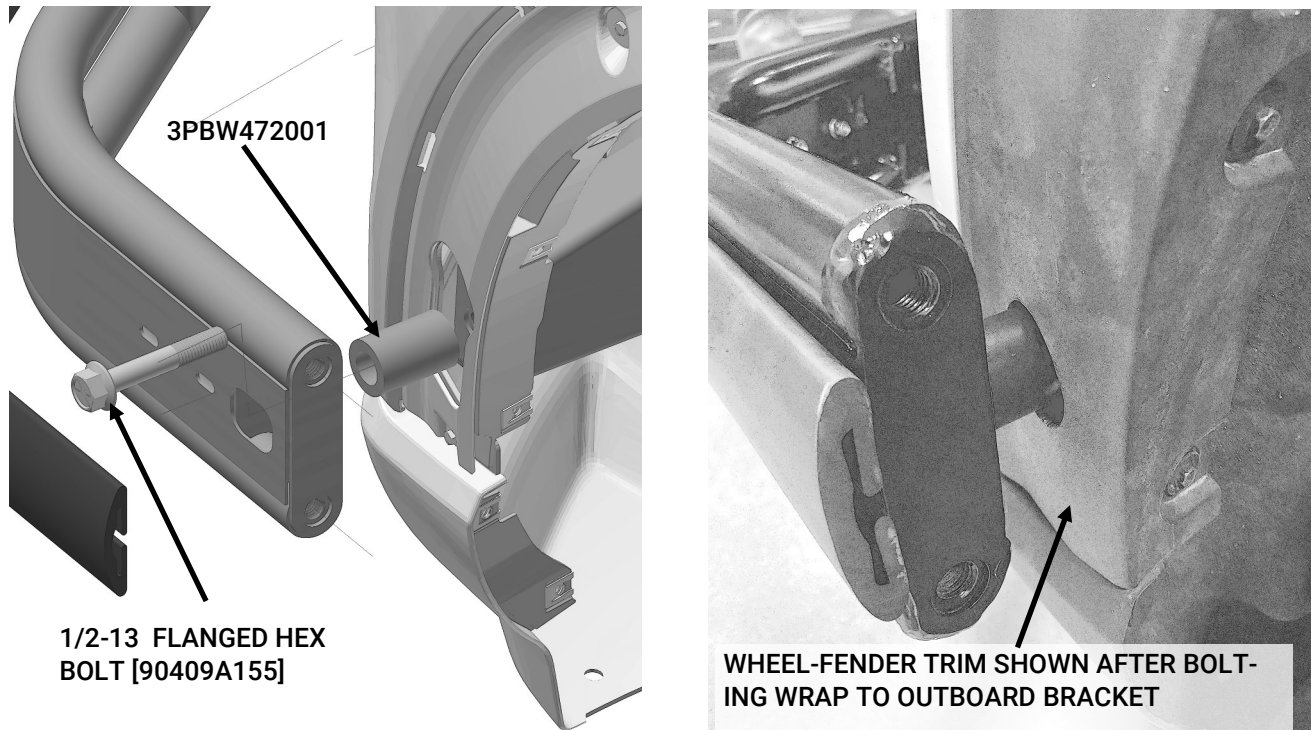

Fig. 8
- D. Assemble the outboard spacer [3PBW472001] thru drilled wheel-fender trim hole, against outboard bracket under the fascia (Fig. 8)
- E. Insert the 1/2-13 x 3" flanged hex bolt [90409A155] , thread into the support bracket behind the fascia and tighten with socket. (Fig. 8)